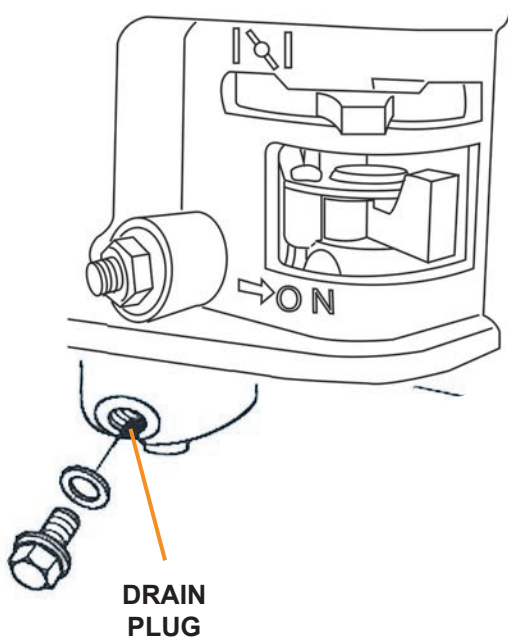

Figure 9
2. When the engine is to be stored for longer than 20 days, prepare it for storage by emptying the fuel tank and draining all fuel lines (see Figure 9). Clean out area around spark plug and remove. Pour one tablespoon of engine oil into the cylinder through the spark plug hole. Reinstall the spark plug, but leave the spark plug wire disconnected. Pull recoil starter handle to distribute oil in the cylinder. Stop after one or two revolutions when you feel the piston start the compression stroke (when you start to feel resistance).